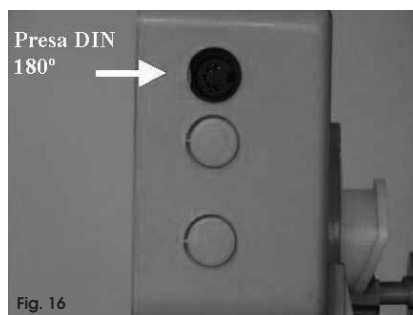

Fig. 16
- The controller is inhibited. If you're using the plug DIN (Fig. 16), verify that inside the cap of the connector there is no short circuits between the clamps.
In fig. 16 is shown the plug DIN 180° where it is possible to connect the counter probe.